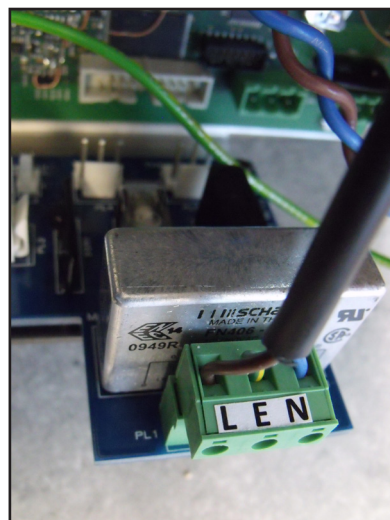

Figure 1 *Power Connection Connector*
Any power connection cable should be 3 core over sleeved, with minimum 0.5mm insulation and rated at 300 V. Cables should have Live (L), Neutral (N) and Earth [Ground] (E) conductors. Ensure suitably rated power supply cables and glands are used to ensure that electrical safety is maintained. Connect each of the Live (L), Neutral (N) and Earth [Ground] (E) conductors to the similarly marked terminals (L, N, E) on the Power In connector shown in Figure 1. Ensure the power supply can deliver sufficient power consumption requirement.